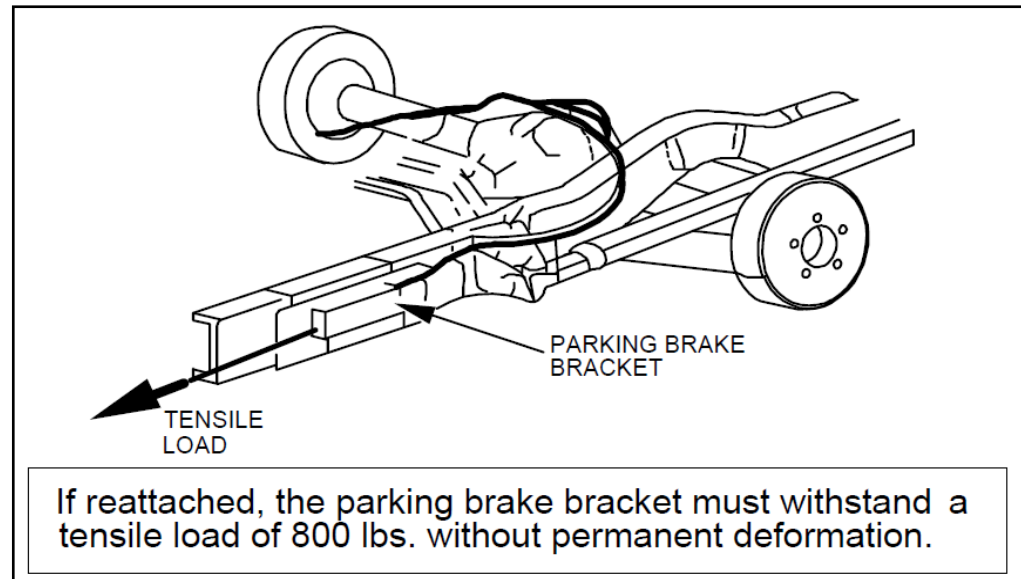

Figure 19 – Parking Brake Bracket Strength
- Parking brake cable bracket attachment to the frame must be able to withstand a tensile load of 800 pounds, without any significant deflection. See Figure 19.